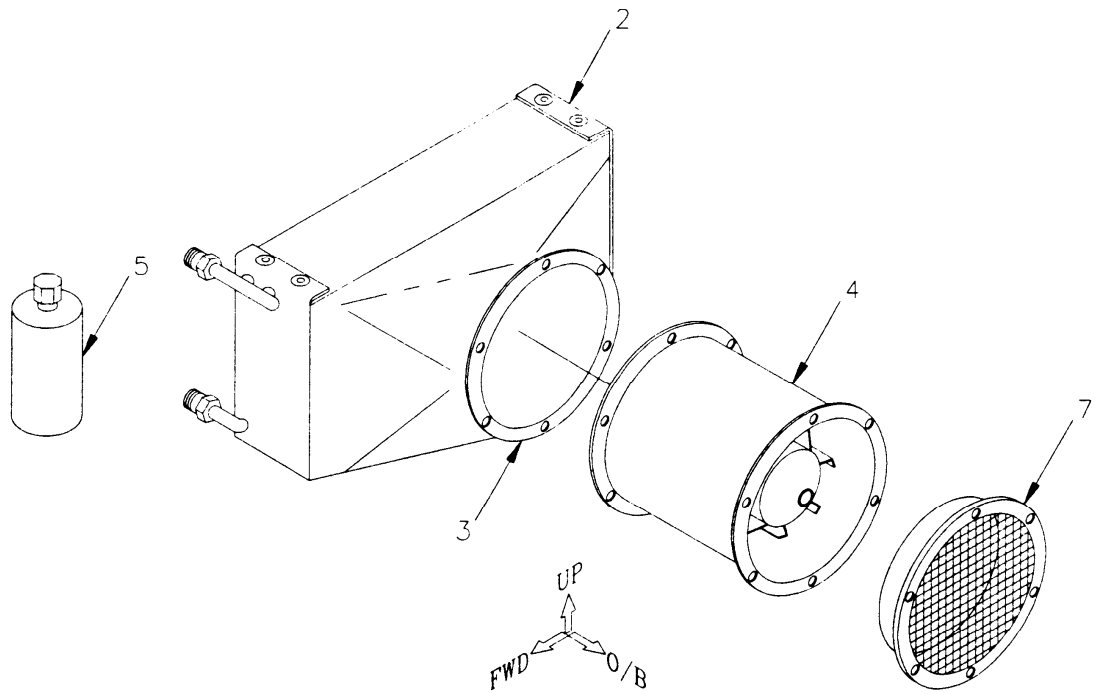

Figure 1. Condenser Assembly
3. CONDENSER ASSEMBLY MAINTENANCE PROCEDURES (REF. IPL Fig. 1)
IPL FIGURE 1